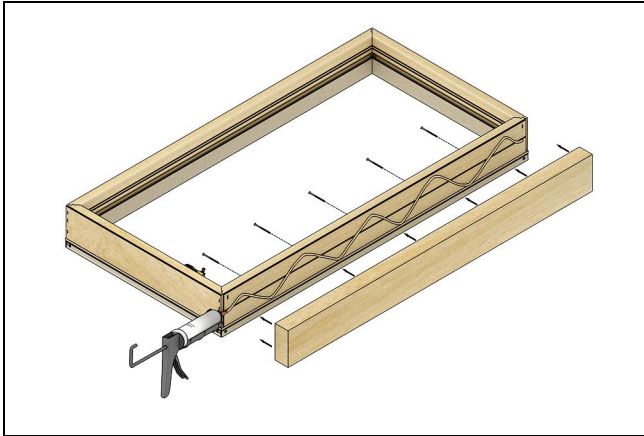

Figure 22
1. Set the units on a flat surface interior side up. Apply adhesive in a wobble pattern on the window frame. See Figure 22.